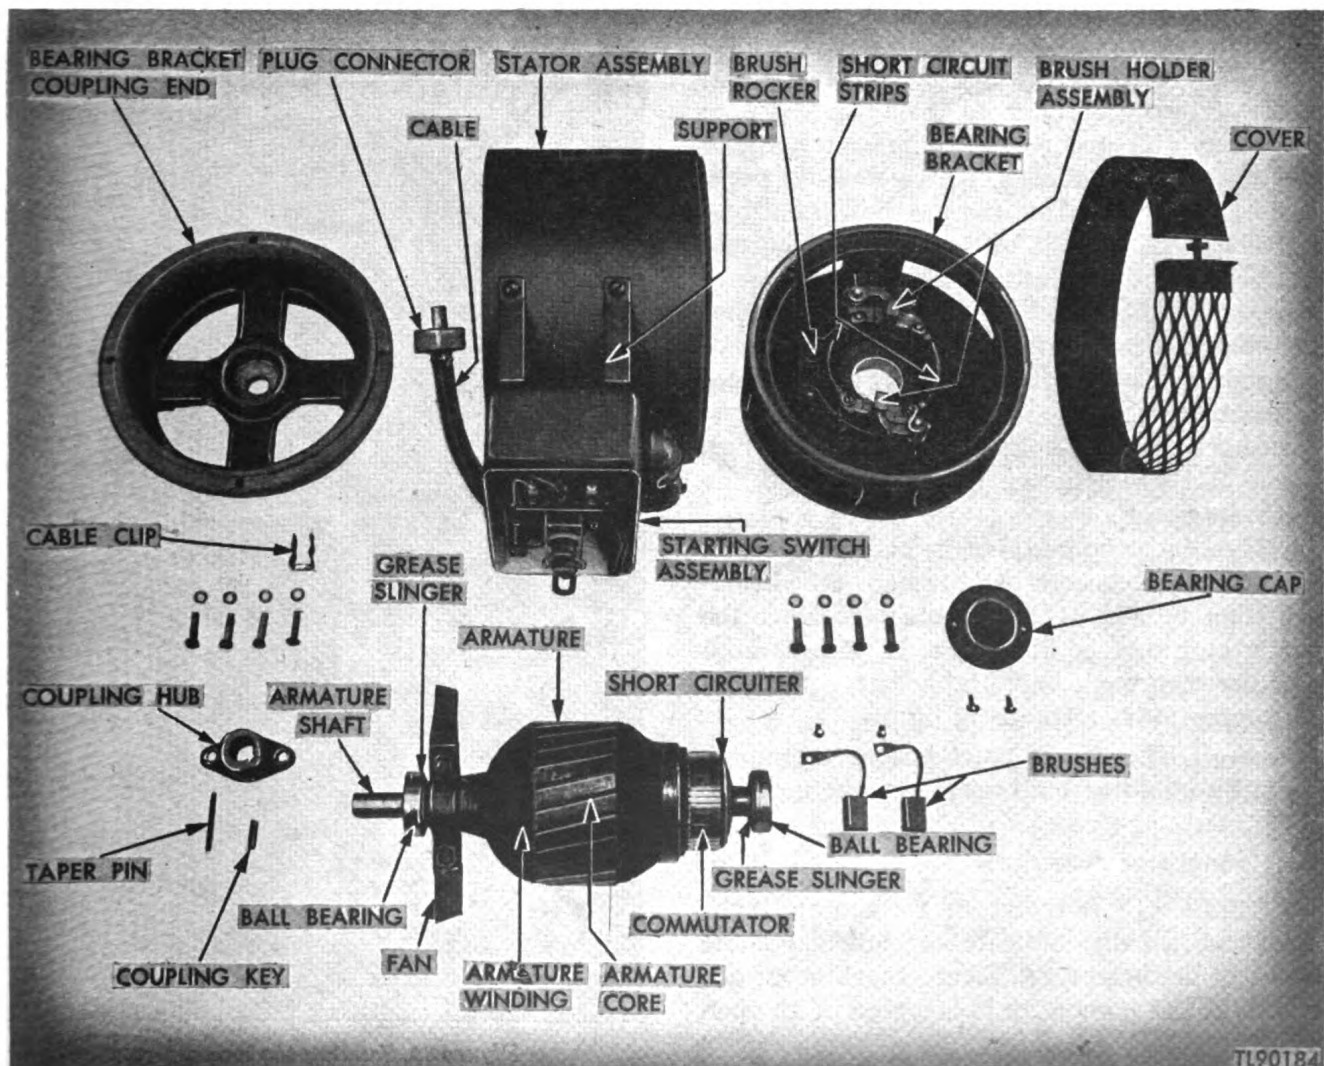

Figure 88. Motor MO-37-A—disassembled.
b. BRUSHES AND BRUSH HOLDERS (fig. 88).
(1) The brushes carry practically no current except during starting. Therefore they have a very slow rate of wear and should not require frequent replacement.
(2) Make a periodic inspection of the brushes and brush holders. Accumulation of carbon dust on the brush holders is an unavoidable result of brush wear. Should this accumulation become excessive, it may interfere with the movement of the brushes in the brush holders and thereby cause improper functioning of the short-circuiting device. It is therefore good practice to blow out the carbon dust when the motor is inspected or serviced. Wiping off the dust with a cloth saturated with dry-cleaning solvent (SD) is also recommended.
(3) Do not remove the brushes from the brush holders (fig. 88) unless it is absolutely necessary for replacement or major cleaning operations. If brushes are removed and found to be still in good condition, put them back in the same holders and in the same position they originally occupied.
(4) To replace a worn or broken brush, disconnect the pigtail from the brush holder, lift the pressure finger, and pull the brush out of the brush-holder box. Place a new brush in the box. Before connecting the pigtail, be sure the brush can move freely in the box.
(5) Proper contact of brushes on the commutator is very essential for proper operation. It is advisable, therefore, to sand in the contact surfaces of new brushes when they are installed. (See par. 101e.)
(6) The brush rocker is marked with a paint line. A similar line is painted on the inside of the motor bearing-bracket. When these two lines coincide the rocker is in proper operat-
c. MOTOR COMMUTATOR. (1) The commutator (fig. 88) of Motor MO-37-A is equipped with a short-circuiting starting device. (See *e* below.)
(2) To insure good contact with the brushes and proper operation of the short-circuiting device, the commutator should be maintained in the same manner as described in paragraph 101.
d. MOTOR ARMATURE. (1) If the motor does not operate properly or fails to start, there may be an open or short circuit in the armature winding. (See fig. 88.)
(2) If an open circuit should occur in the armature winding, it will usually cause severe burning on a commutator bar and the motor will not run at proper speed under load.
(3) The short-circuiting starting device mounted on the commutator end of the armature shaft can be removed, if necessary. (See *e* below.)
(4) If it becomes necessary to replace the motor armature, proceed as outlined in paragraph 102.
e. SHORT-CIRCUITING. (1) Keep the short-circuiting device (fig. 88) free from dirt and dust. The best way to do this is with a jet of low-pressure air or with a hand bellows.
(2) If the starting device fails to function, too strong a spring tension is indicated.
(3) When it is necessary to remove or replace the short-circuiting device for any reason, proceed as follows:
g. **MOTOR BEARINGS.** The motor armature shaft rotates in two ball bearings (fig. 88) of exactly the same type as those used in Generator GN-39-F. They are located in the brackets at each end of the motor. If it becomes necessary to replace the commutator end bearing